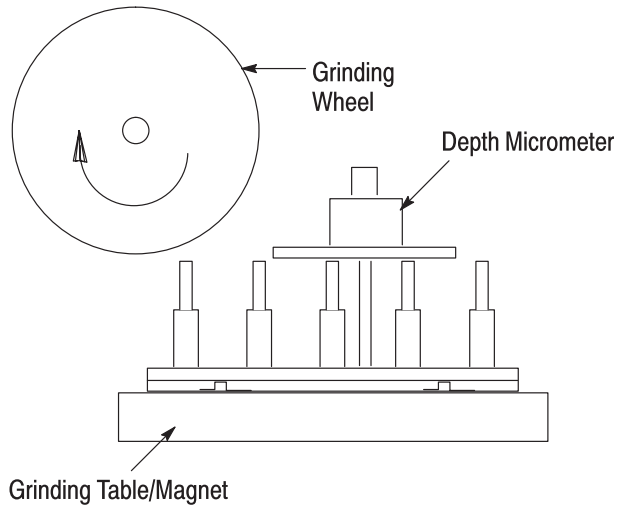

Figure 8
6. After grinding the perforators, measure from the face of the perforators to the face of the punch using a depth micrometer. Record this number in Die Repair and Sharpening Log (in the die package documentation package) under the perforator length. Subtract this number from the previous entry to determine how much material has been removed. See Figure 8.